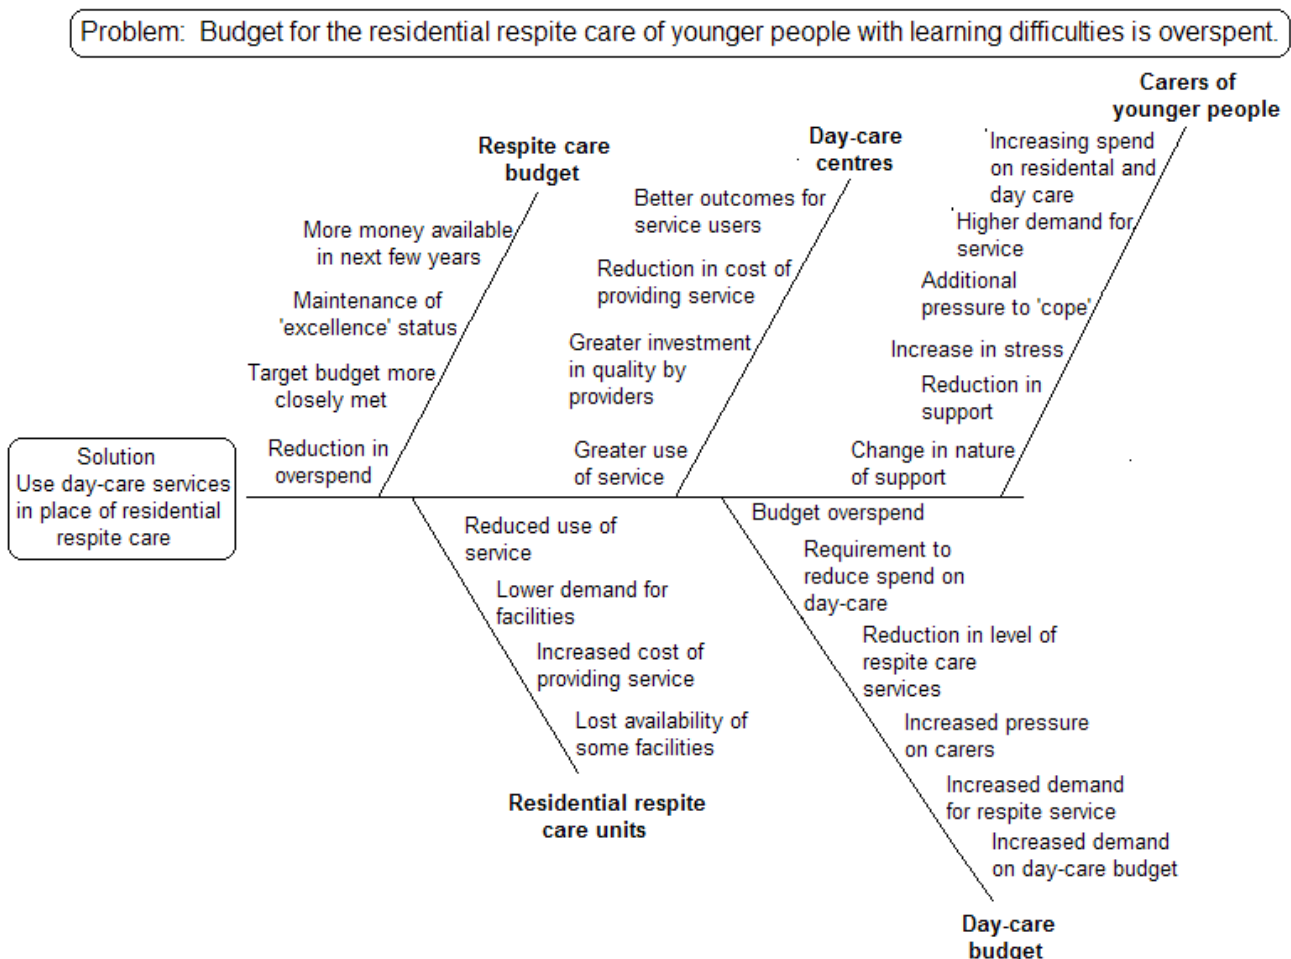

Figure 19: An illustration of a 'consequence analysis'
1. State clearly the proposed solution and write it on the left-hand side of a sheet of paper or flipchart, as shown in Figure 19 below.